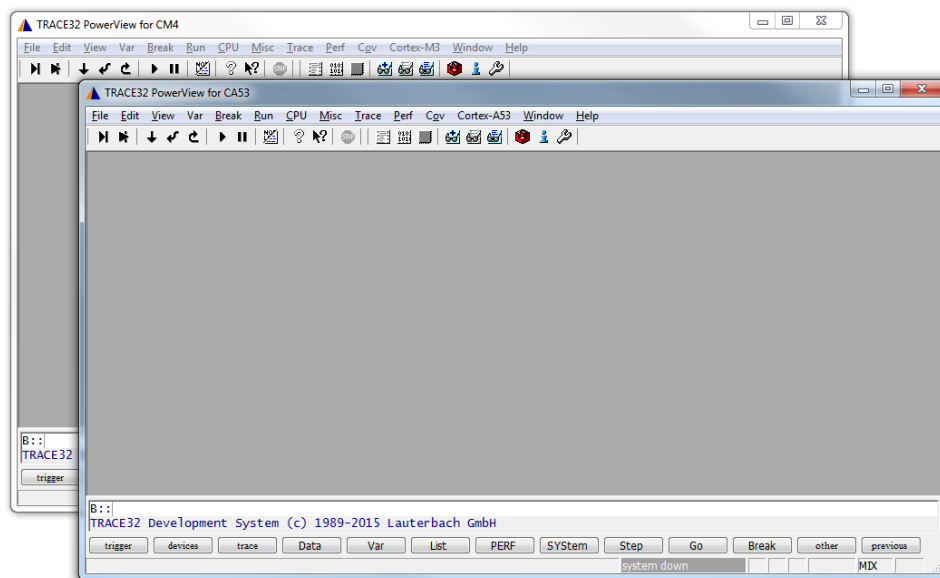

Figure 8 PowerView windows for S32V234 debug
10. Two T32 instances will open, from now, only PowerView for CA53 will be used (all scripts are ran from here) (Figure 8)